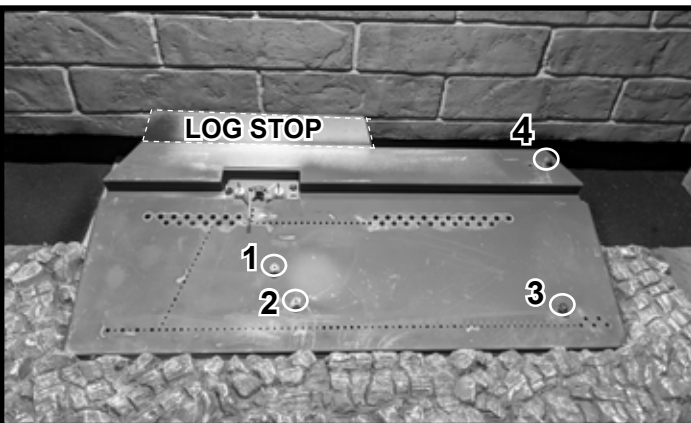
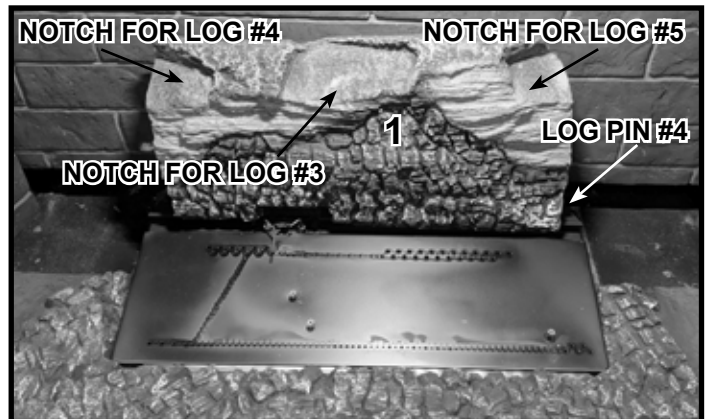
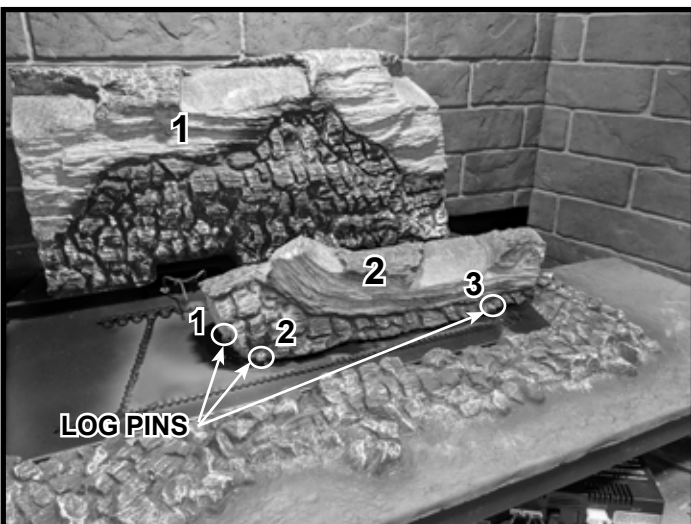

Figure 2 Locations for Log Pins
Figure 3 Position Log #1
Figure 4 Position Log #2
1. Reference the four log pins and the location of the log stop shown in Figure 2.
**Log #1:** Place Log #1 as shown in Figure 3. The right end touches Log Pin 4. Push the log back until it rests against the log stop shown in Figure 2.
**Log #2:** Place Log #2 using the three log pins as shown in Figure 2 and Figure 4.
**Log #3:** Place the top end of Log #3 on the notch located on Log #1. See Figure 3 and Figure 5. Place the bottom end of Log #3 as shown in Figure 5. The burned out side of Log #2 and the knot on Log #3 align, but do not make contact. See Figure 5 and Figure 7.
**Log #4:** Place the top end of Log #4 on the notch located on Log #1 as shown in Figure 3 and Figure 6. Place the bottom of Log #4 seven inches from the bottom of Log #3 as shown in Figure 6.
**Log #5:** Place the top end of Log #5 on the notch located on Log #1. See Figure 3 and Figure 7. The bottom end of Log #5 rests on the base refractory as shown above. The space between the bottom right side of Log #3 and the bottom left side of Log #5 should measure 13-1/2 inches as shown in Figure 7.